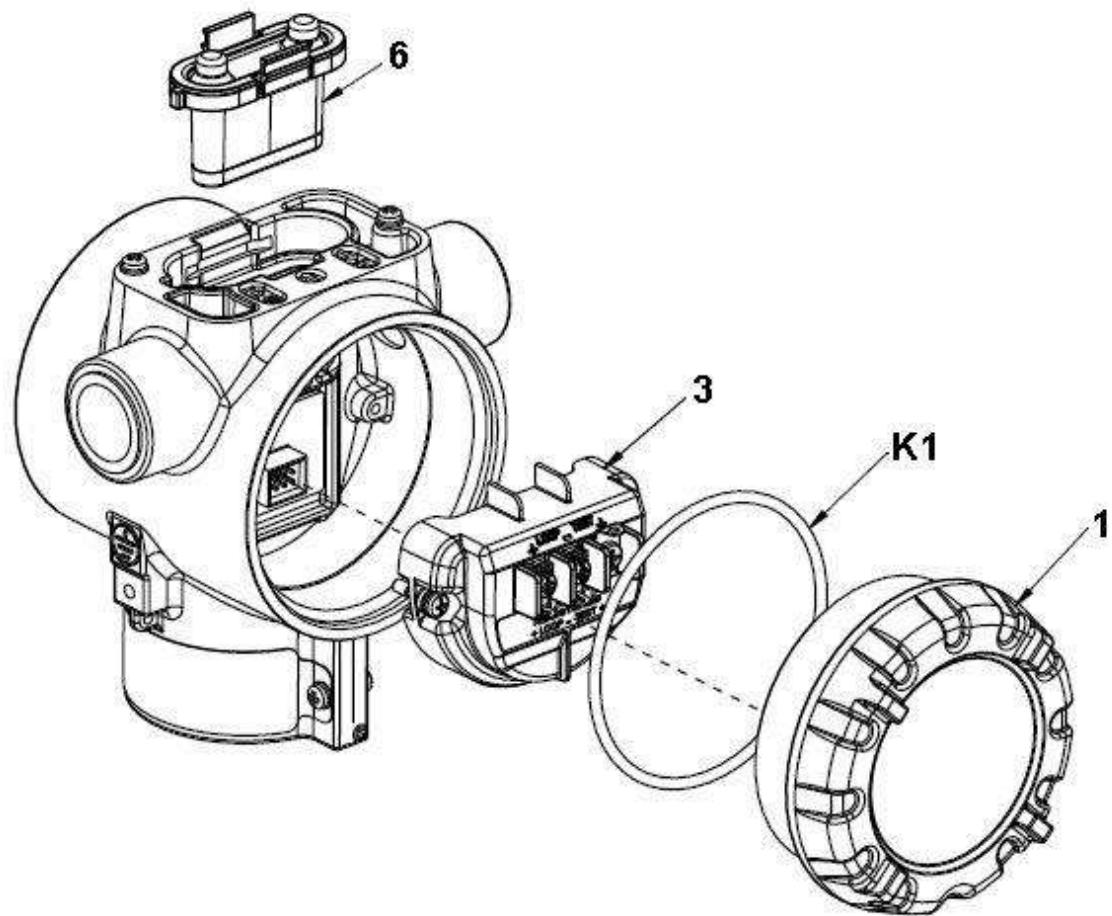
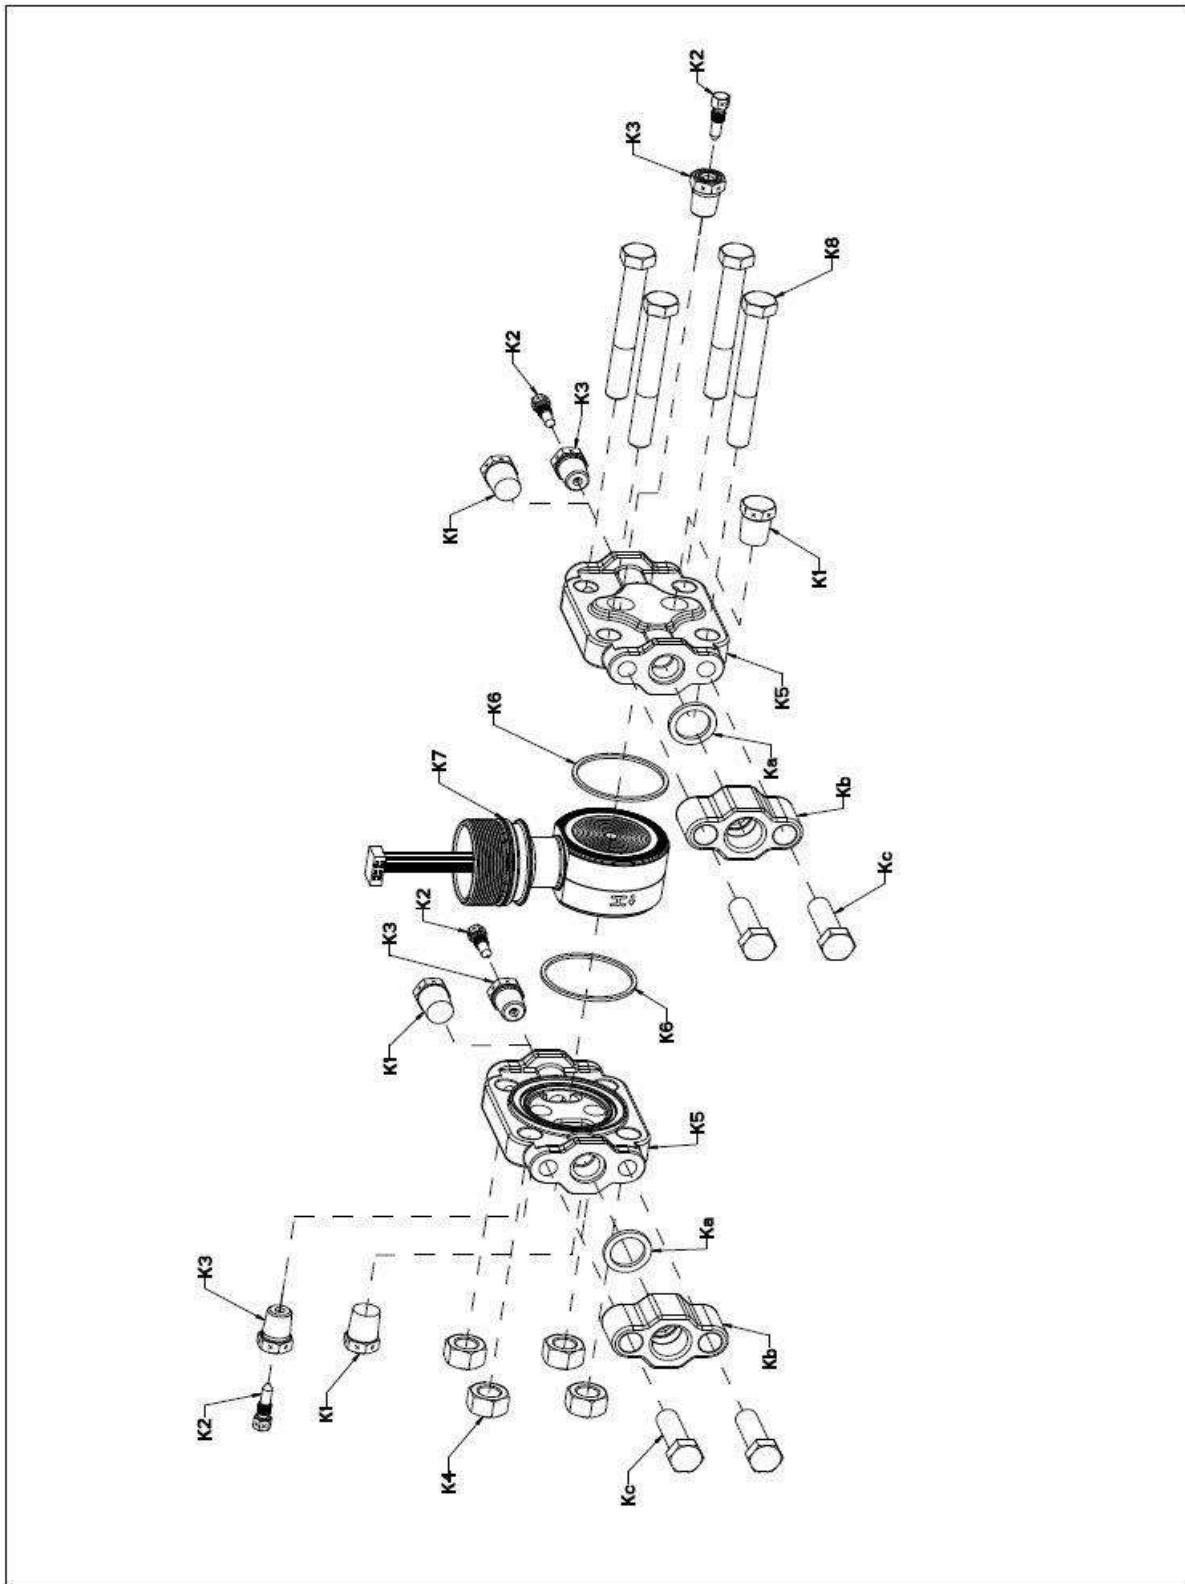

**Figure 69 – ST 700 Basic Transmitter - Electronic Housing, Display End**
Figure 72 - ST 700 Basic Transmitter Models STD725, 735, 775 – refer to Table 45
(Refer to Figure 69, Figure 70 and Figure 72)
**Table 45 – ST 700 Basic Transmitter STG735, 745, 775, STD 725, 735, 775 & STA725 & 745, Transmitter Body. (Refer to Figure 72)**